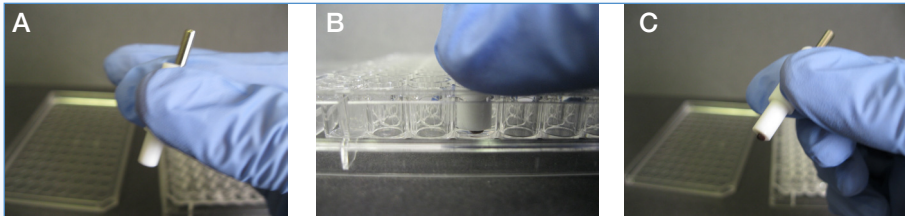

Figure 1: Take a MagPen™, (a) gently touch the culture, (b) and lift the culture up (c).
1. Insert the magnet fully into the PTFE tip (**Figure 1**).
2. Gently move the MagPen™ toward the culture until it touches the PTFE tip. Be careful not to crush the culture between the MagPen™ and the surface (**Figure 1**).
3. Lift the MagPen™ up. The culture should remain on the MagPen™ (**Figure 1**).